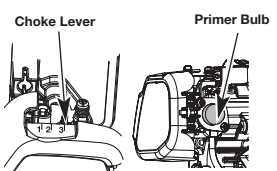
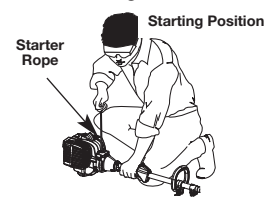

Fig. 19
Fig. 20
- Fully press and release the primer bulb 10 times, slowly. Some amount of fuel should be visible in the primer bulb and fuel lines (Fig. 19). If fuel can not be seen in the bulb, press and release the bulb until fuel is visible.
- Place the choke lever in **Position 1** (Fig. 19).
- Crouch in the starting position (Fig. 20). Squeeze the throttle control lever. Pull the starter rope 5 times.
- Place the choke lever in **Position 2** (Fig. 19)
- Continue squeezing the throttle control, move the choke lever to **Position 3** (Fig. 19) and continue warming the engine for an additional 60 seconds. The unit may be used during this time.
IF...the engine hesitates, return the choke lever to **Position 2** (Fig. 19) and continue warm-up.
- There is no need to turn the unit on. The On/Off Control is in the ON (I) position at all times (Fig. 19).
- Fully press and release the primer bulb 10 times, slowly. Some amount of fuel should be visible in the primer bulb (Fig. 19). If fuel cannot be seen in the bulb, press and release the bulb until fuel is visible.
- Move the choke lever to **Position 1** (Fig. 19).
- Crouch in the starting position (Fig. 20). Place the electric starter or power start bit into the back of the unit. Refer to the Operation section of the Electric Starter or Power Start Bit operator's manual.
- Squeeze the throttle control lever. Press and hold the electric starter or drill ON (I) button for 2 seconds.
- Move the choke lever to **Position 2** (Fig. 19).
- Squeeze the throttle control lever, press and hold the electric starter or drill ON (I) button for 2-second intervals until the unit starts.
- Continue squeezing the throttle control, move the choke lever to **Position 3** (Fig. 19) and run the unit for an additional 60 seconds. The unit may be used during this time
IF... the engine hesitates, return the choke lever to **Position 2** (Fig. 19) and continue warm-up.
- Press and hold the On/Off Control switch in the **OFF (O)** position until the unit comes to a complete stop (Fig. 19).